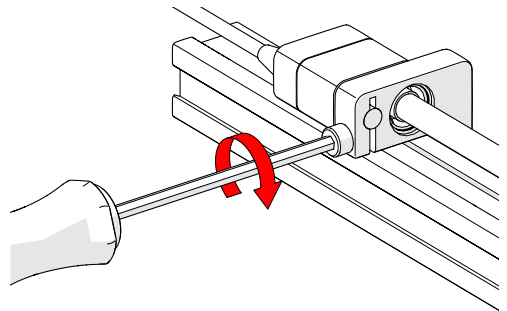

Fig. 70 - Tighten clamp screw
3. Tightening the 3 mm clamp screw on the index encoder support bracket (Fig. 70).